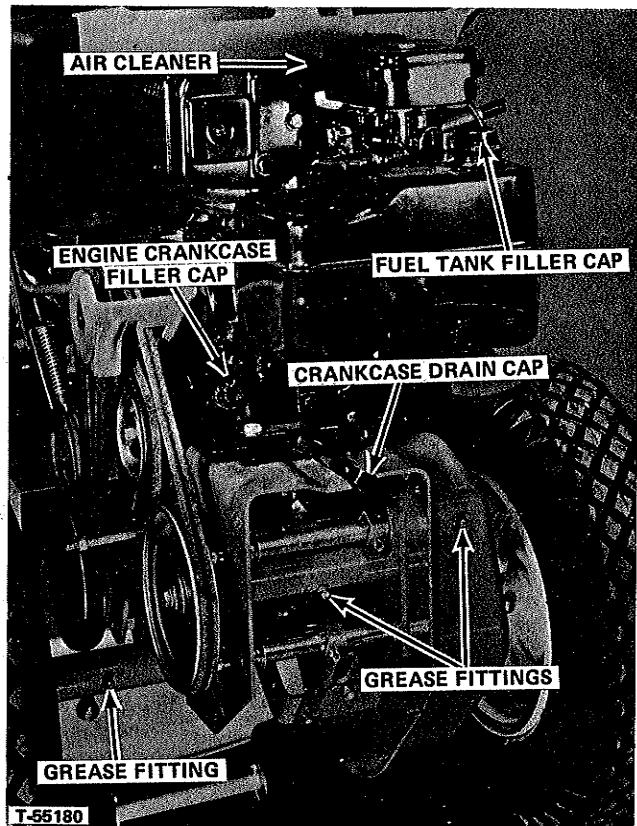

FIGURE 3
2. See Figure 3. Remove the engine crankcase filler cap at rear of engine. Oil level should be up to top of rear edge of tube from which cap was removed. If not, add oil as required. **NOTE:** Use only a high quality detergent oil classified as "SC" or "SD" of 10W-30 grade.
3. See Figure 3. Remove the fuel tank filler cap and fill tank with clean, fresh "REGULAR" grade gasoline using a can with a flexible spout. **DO NOT** use premium gasoline. **DO NOT** mix oil with gasoline.